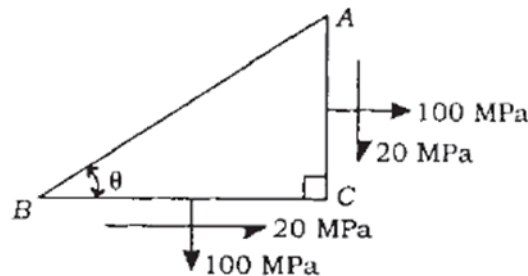

Fig. 7
21. Stresses on two perpendicular planes, at a point, are given in Fig. 7. What are the directions of principal planes with respect to plane BC ? What are the principal strains on principal planes, if $E = 67$ kN/mm², $\nu = 0.33$?